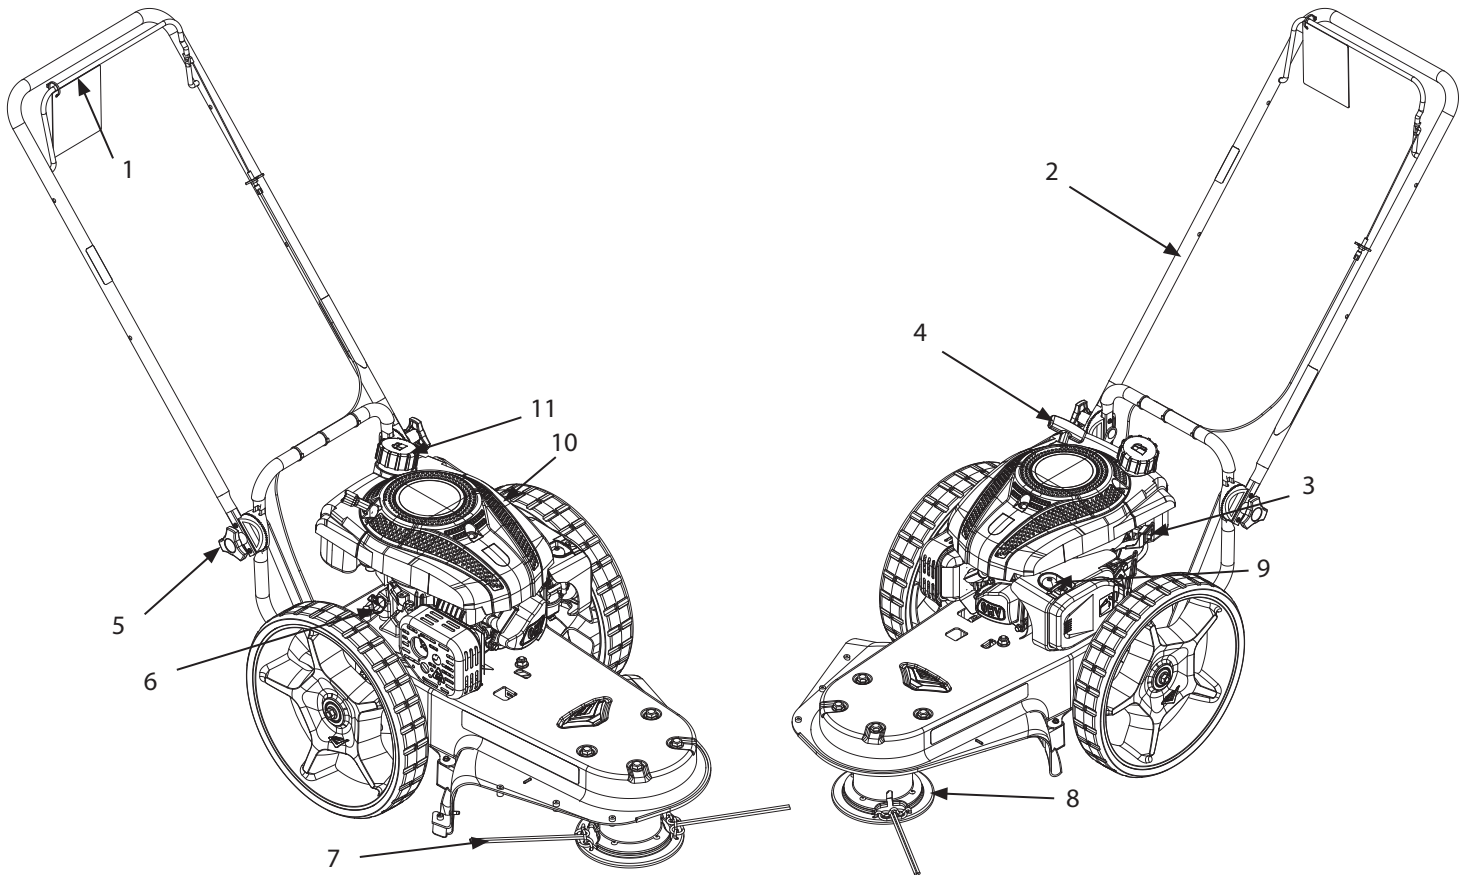

FIGURE 1: String Mower Features
Read this owner's manual and safety rules before operating your mower. Take time to compare the following illustration with the mower to familiarize yourself with the product and its controls. **SEE FIGURE 1**
1. Before each use, remove debris from the debris screen. **SEE FIGURE 1 IN "FEATURES" SECTION.** Debris can cause the engine to overheat. Wipe the debris screen with a cloth or paper towel.